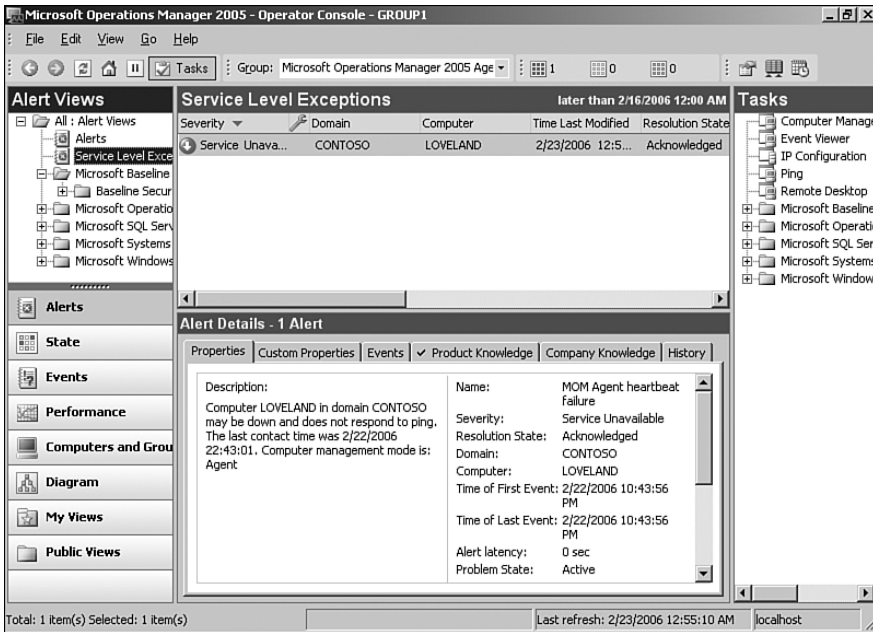

FIGURE 14.33 The alert is acknowledged.
- The alert is acknowledged by your operations staff, and the resolution state is changed to Acknowledged. In this case the state was manually changed, but the resolution state can also be changed by a script running as a response to the alert. Figure 14.33 shows the state as Acknowledged.